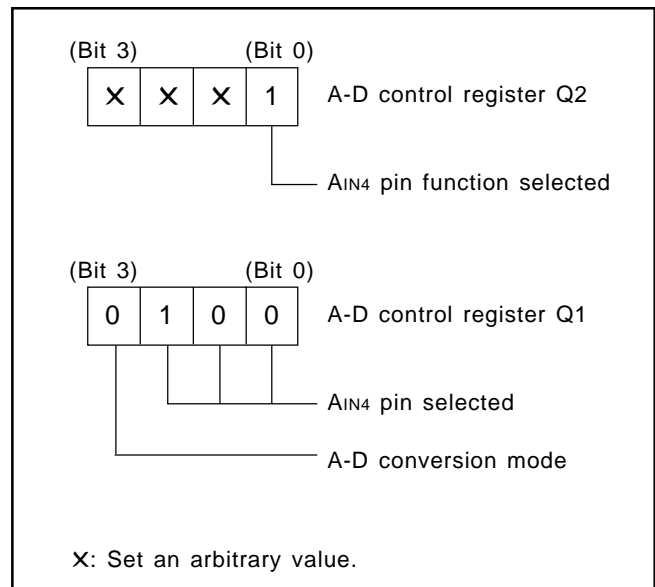

Fig. 35 Setting registers
- ① Select the AIN4 pin function with the bit 0 of the register Q3. Select the AIN4 pin function and A-D conversion mode with the register Q1 (refer to Figure 35).
- ② Execute the ADST instruction and start A-D conversion.
- ③ Examine the state of ADF flag with the SNZAD instruction to determine the end of A-D conversion.
- ④ Transfer the low-order 2 bits of converted data to the high-order 2 bits of register A (TALA instruction).
- ⑤ Transfer the contents of register A to M (Z, X, Y) = (0, 0, 2).
- ⑥ Transfer the high-order 8 bits of converted data to registers A and B (TABAD instruction).
- ⑦ Transfer the contents of register A to M (Z, X, Y) = (0, 0, 1).
- ⑧ Transfer the contents of register B to register A, and then, store into M(Z, X, Y) = (0, 0, 0).